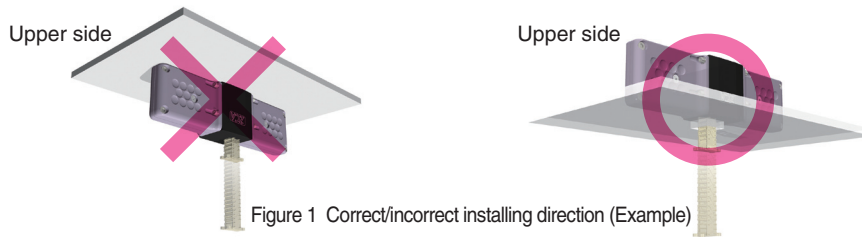

Figure 1 Correct/incorrect installing direction (Example)
2. The ZCA can be installed in the vertical lifting or hanging directions or horizontally. However, when it is installed horizontally or in a hanging position, do not allow the weight of the unit and the weight of conveyed items to be placed on the mounting bolts. If the unit operates in such a condition, it may result in damage to the unit. Install the unit in a manner that prevents the mounting bolts from receiving any the load.(Figure 1)